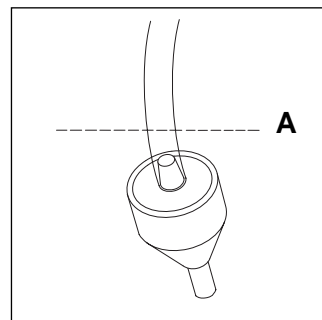

Figure 9.13
4. Cut air line tubing immediately above the end of the check valve inserted in the tubing (A) (Figure 9.13). If tubing is too short, call the Abbott Customer Support Center.